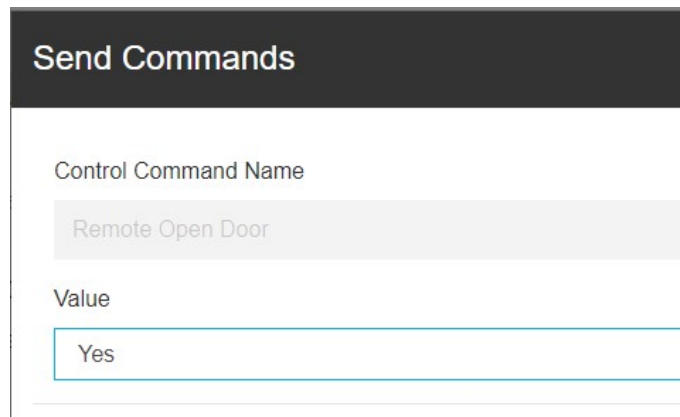

Figure 13-29 Control signal
3. Click  on the right side of the control command and select **Send Commands** from the pop-up drop-down menu. The **Send Commands** page is, as shown in Figure 13-29. Select the control command to be sent from the drop-down list box, and click **SEND COMMAND**. The command is sent to the underlying device. When the control command is successfully sent, the pop-up page is closed, and the system prompts "Operation Success" in the lower right corner of the screen. When the control command fails to be sent, the system prompts "Operation failed" in the lower right corner of the screen.